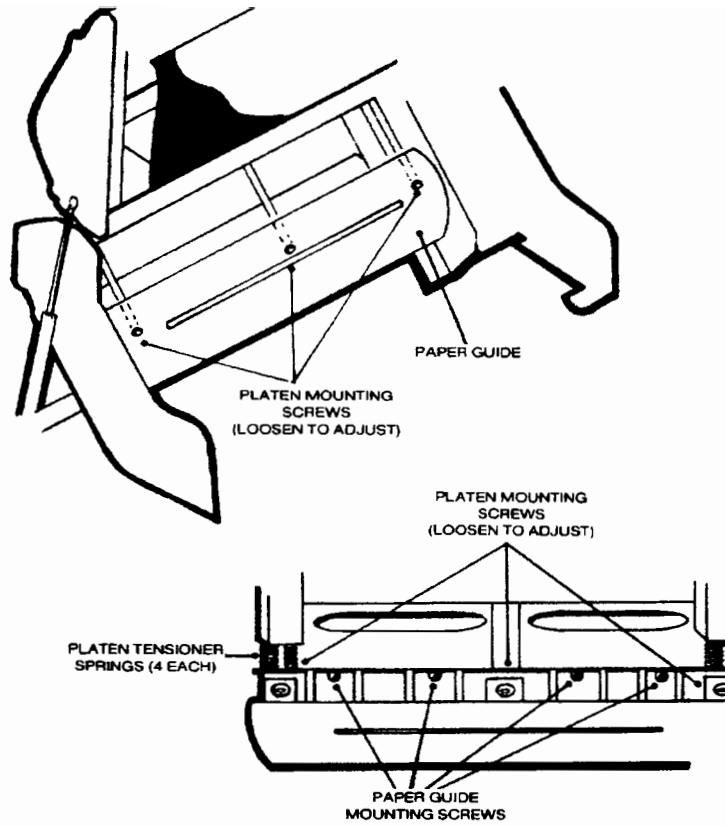

Figure 5-2 Platen Adjusting Screws
- e. Lower the swing-gate halfway down and loosen the three 4 mm allen screws located on top of the platen assembly (see Figure 5-2). Loosen just enough to allow the assembly to slide in and out (approximately 3/4 turn counterclockwise). The adjustment springs should push the assembly out. Press on the face of the paper guide/platen assembly to verify that it moves in and out freely.